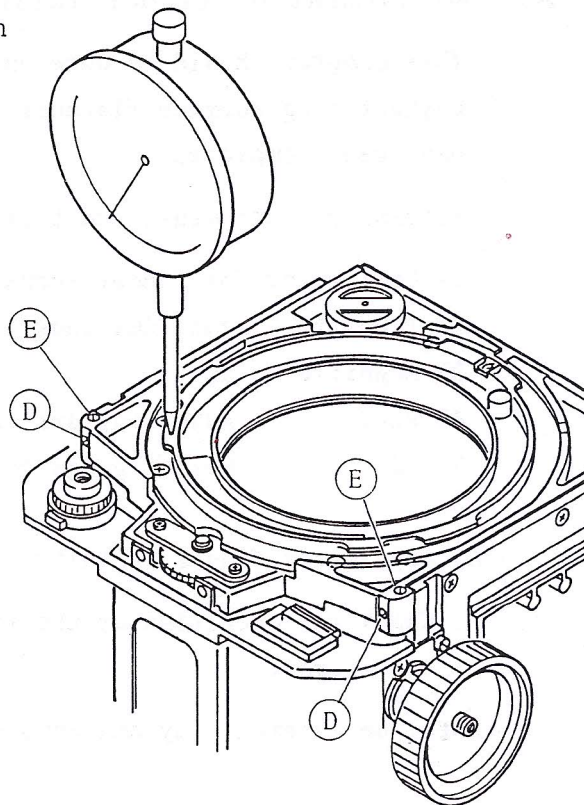
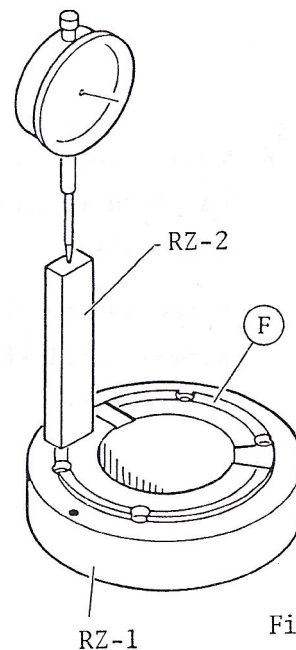

Fig. 109
Fig. 110
1. Loosen the two set screws (D) in bottom of the front board. (Fig. 109)
2. Also loosen the two stopping screws (E) until they just out approximately 0.2mm from the front board.
3. Put the RZ-2 block gauge on the RZ-1 stand and set the dial gauge to zero. (Fig. 110)
5. Screw in one of the (E) screws until the dial indicator points +0.05.
8. Tighten the two set screws (D) and apply some adhesive on the head of the screws.